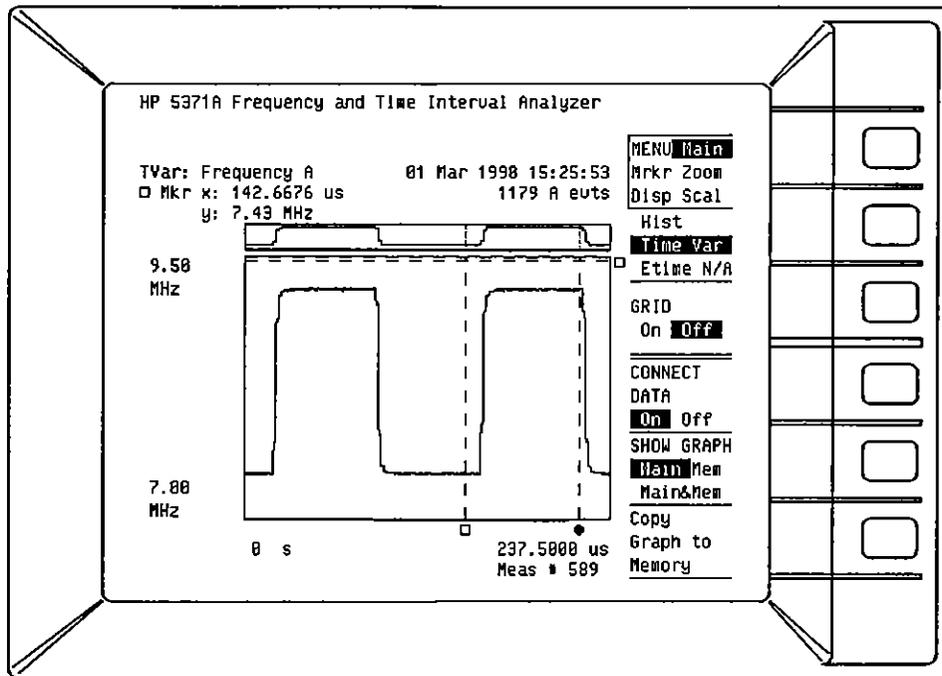

Figure 16-15. Connect Data On
- This feature provides a “connect-the-dots” display of the measurement data. No interpolation is done between data points. This is a linear connection of data points (see *Figure 16-15*).